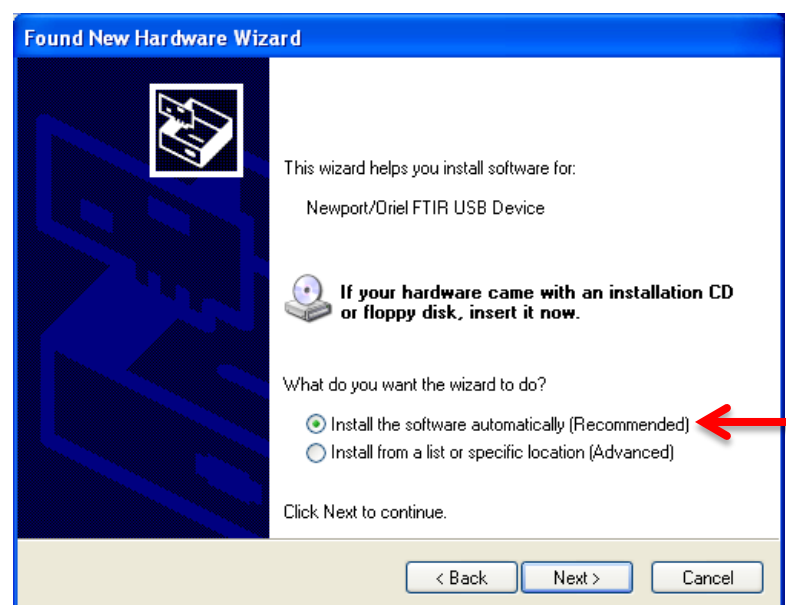

Figure 29: Install Software Automatically
5. Check the option labeled “Install the software automatically (Recommended)”, as shown in Figure 29. Click “Next” to proceed.